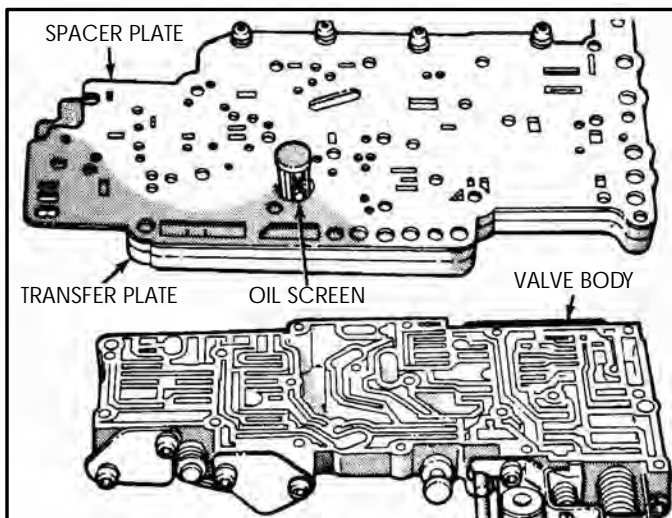

Figure 106
16. Install spacer plate and screen on the transfer plate and install the four retaining screws, as shown in Figure 106.